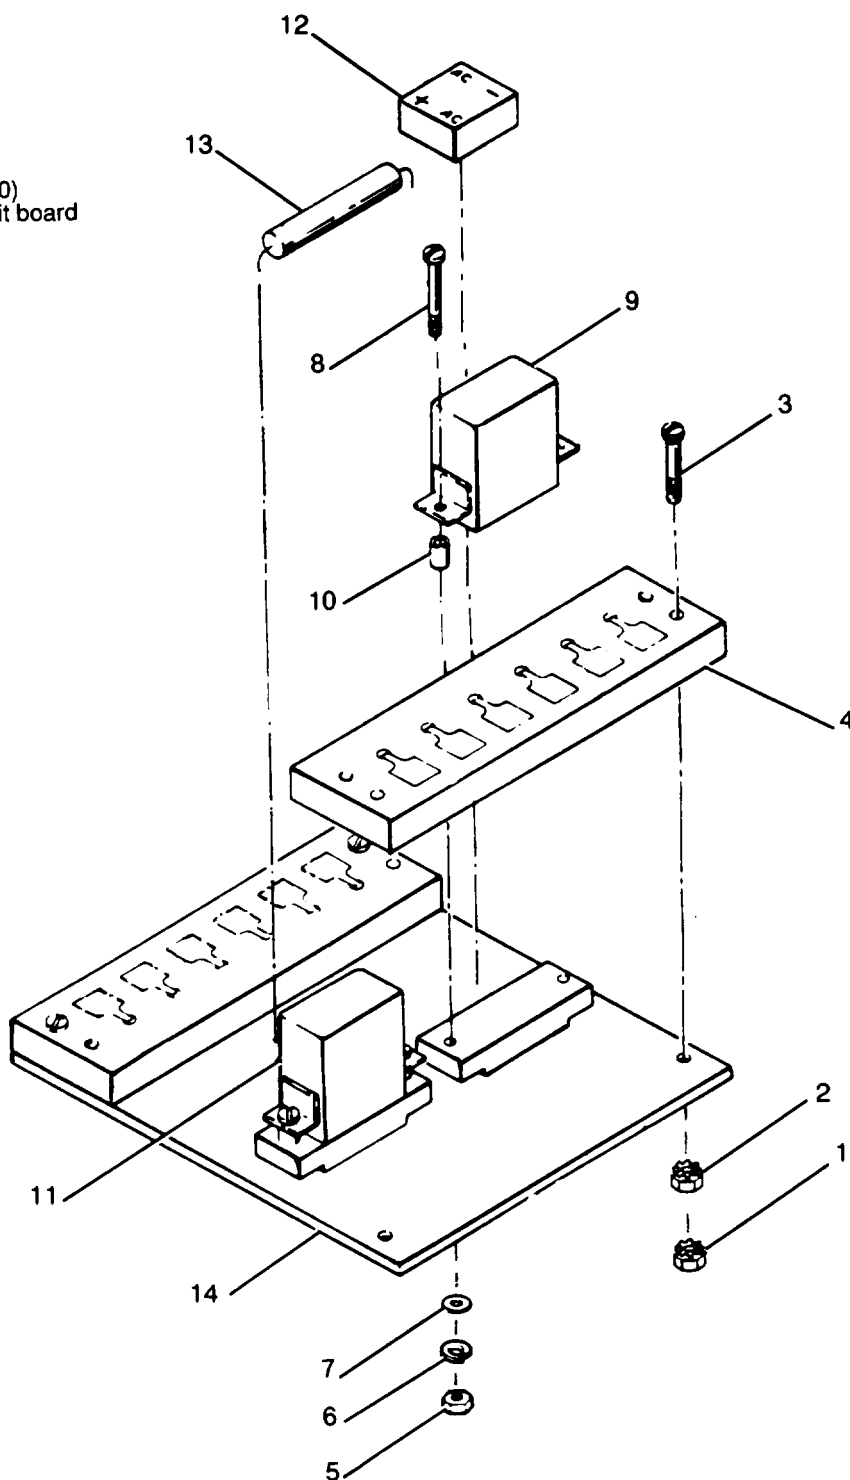

Figure 3-57. Control Cubicle Relay Assembly, Exploded View
- (c) Remove nut and captive washer assembly (1 and 2, figure 3-57), screw (3) and terminal board (4).
- (d) Remove nut (5), lockwasher (6), flatwasher (7), screw (8), relay (9) k6, and spacer.
- (e) Remove relay (11) k1.
- (h) Remove printed circuit board (14).
- (3) Cleaning, Inspection, and Repair.